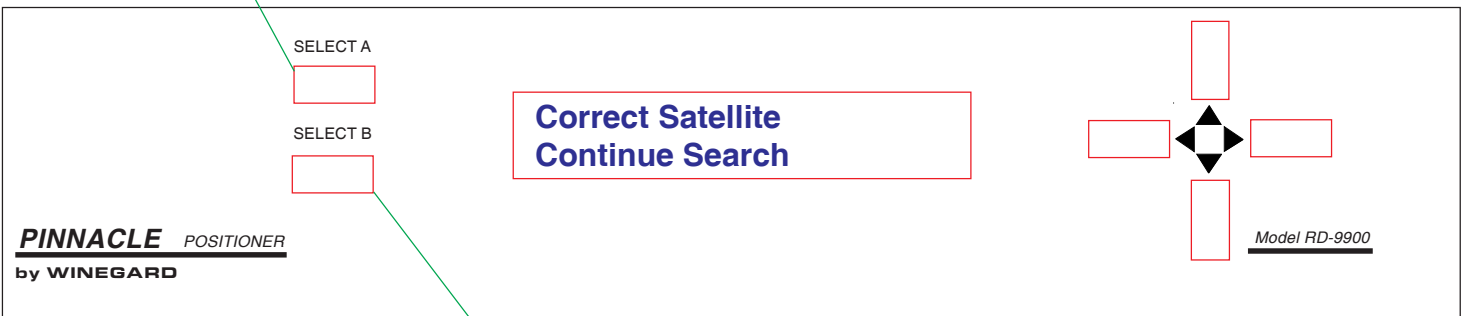

Figure 22
12. Verify that system has found correct satellite (you will get a picture). Since the DBS services use a digital signal and the satellites are only separated by 9°, the system can find the wrong satellite. Press **[SELECT A]** if correct satellite was found, Figure 22, You are now ready to watch satellite TV! If the wrong satellite was found, press **[SELECT B]** to continue the search.